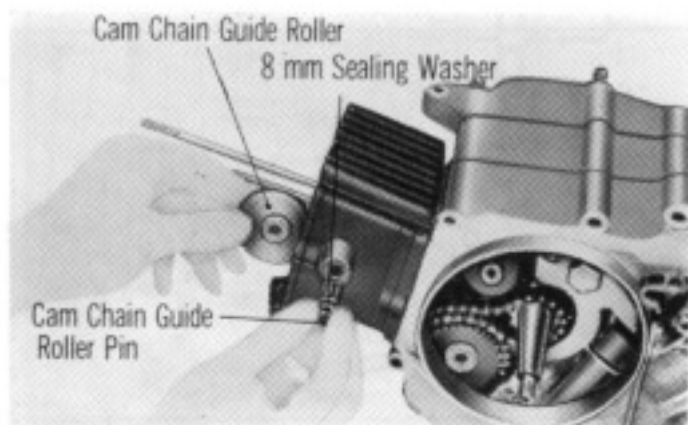

Fig. 15
7. Loosen the cam chain guide roller pin and remove the cam chain guide roller from the cylinder (Fig. 15).